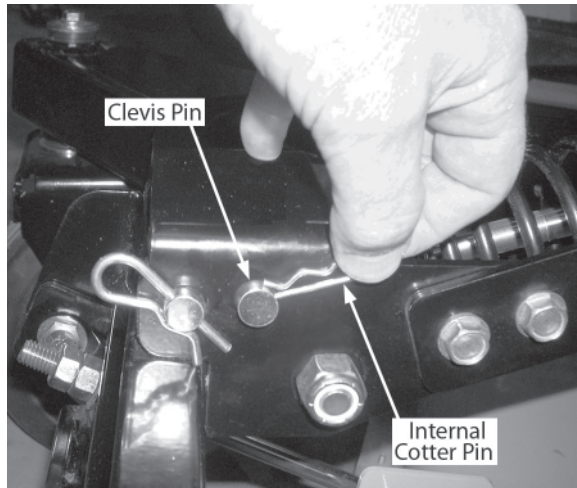

Figure 7-9
- At the front of the deck frame, remove the internal cotter pin and withdraw the clevis pin to unlock shock absorber pivot handle. See Figure 7-9.
- Pivot the shock absorber pivot handle fully rearward and align the rearward hole on the right front of pivot handle with the rear hole of the right mounting bracket. Insert the short clevis pin and secure with the internal cotter pin removed during the removal procedure. Refer to Figure 7-9.